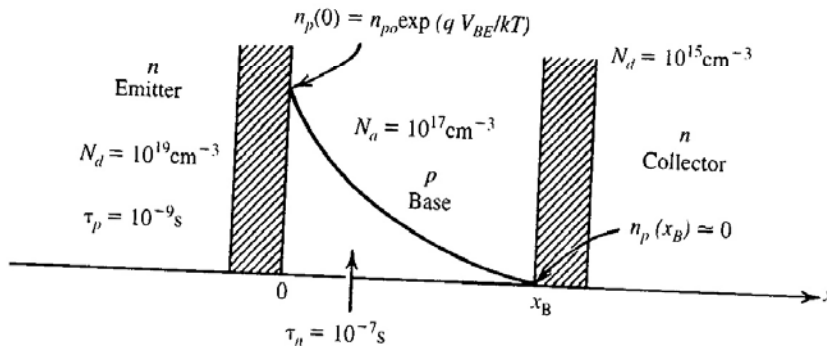

FIGURE P6.19
6.19† Consider the transistor structure shown in Figure P6.19.